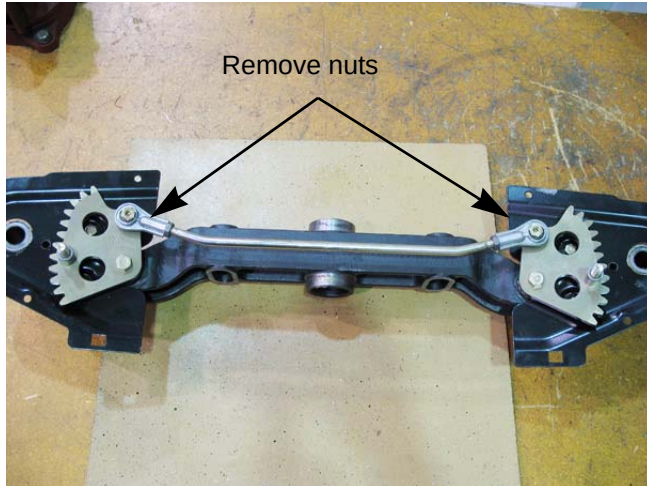

Figure 6.37
10. Remove the tie rod by removing and discarding the nut holding the tie rod ends to the in board steering gear. See Figure 6.37.